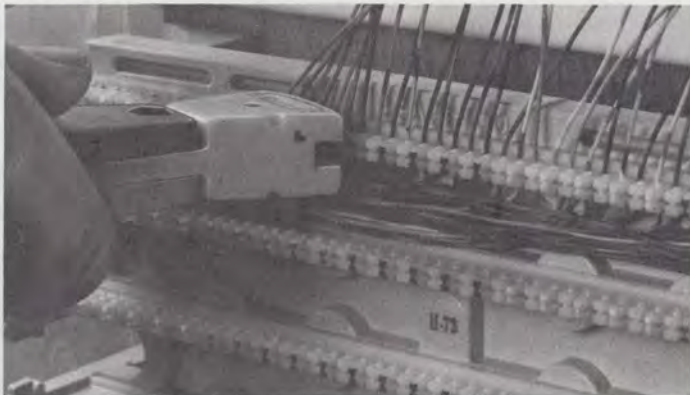

Fig. 20—Cutting Excess Wire
3.15 Cut off excess wire using the 4-pair cutoff tool (Fig. 20) or the cutoff side of the 788J1 tool. Conductors should be perpendicular to index strip for ease in cutting.